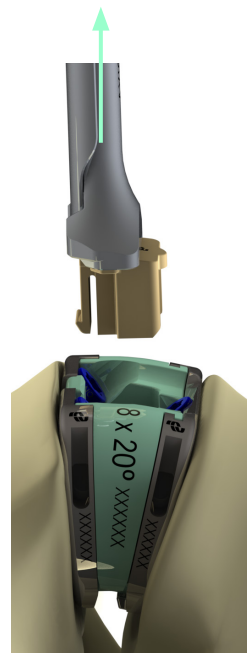

Fig. 57
- The Locking Cap is now unlocked and can be removed by pulling on the Locking Cap Inserter assembly in one linear motion (Fig. 57).